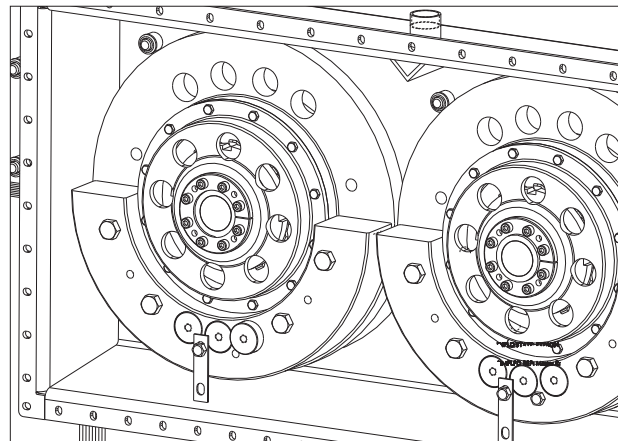

Figure 9.57 - Retaining Straps Loosened
4. On any weight disc, remove one of two cap screws that hold the plug-retaining strap. Loosen the other cap screw, but leave it in place to keep retaining strap from falling down behind case cover, Ref: Figure 9.57.